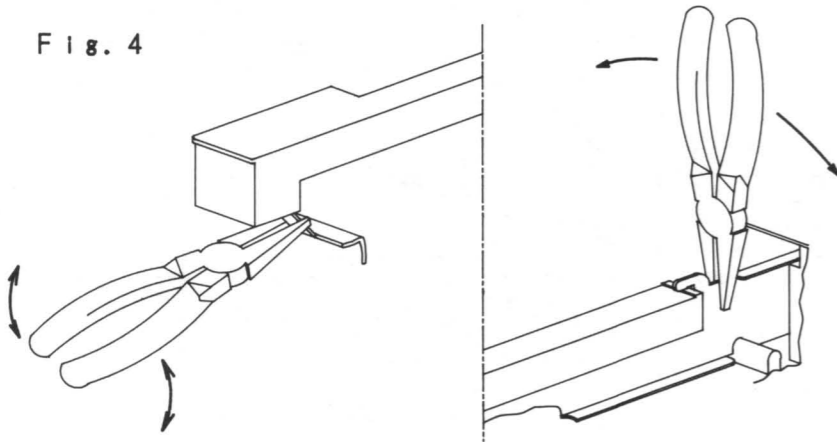

Fig. 4
- b) Key row adjustment (left/right) (Fig. 4)